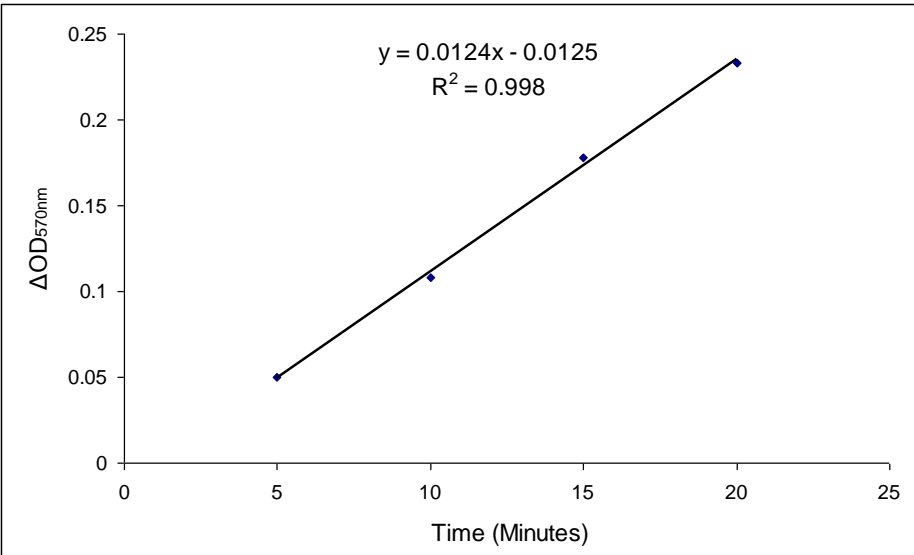

Figure 2. The change in absorbance, ΔOD_{570nm} , of diluted PK positive control during the indicated time at 570nm.
Diluted PK positive control is measured with the PK Assay kit after various reaction times (Figure 2). The linear range of detection is 0.3 to 9.6 U/ml in a 96-well plate assay.
4. Obtain the change in absorbance, T₂₀ and T₀, based on the curve of the diluted PK positive control, as shown in Figure 2.